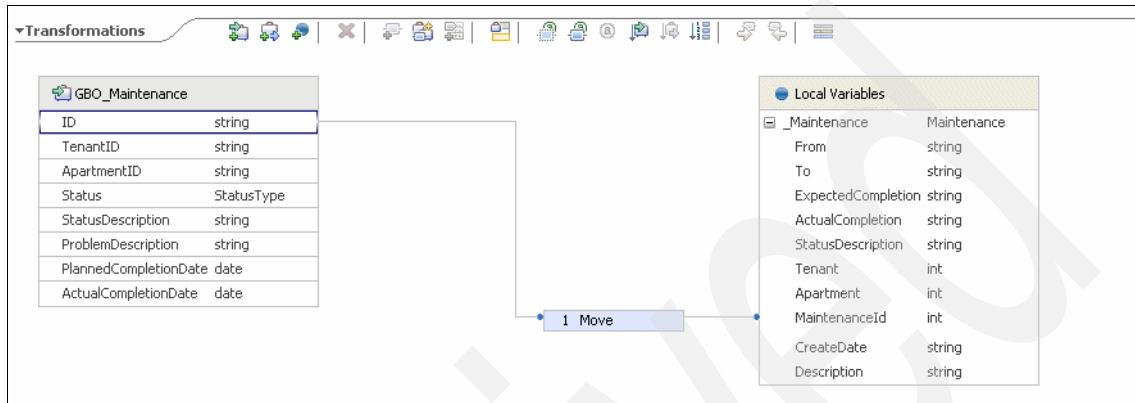

Figure 2-25 Add a move transformation
6. Select the **GBO\_Maintenance** ID and add a connection to the MaintenanceId of the **\_Maintenance** variable (Figure 2-25).